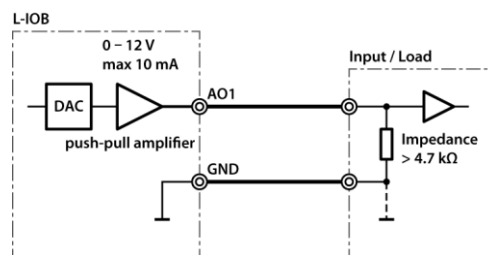

Figure 227: Analog outputs
Figure 227 shows the wiring of the analog outputs (AO). Observe that the analog outputs are labeled '0-10V OUT' but are in fact capable of delivering over 11V.